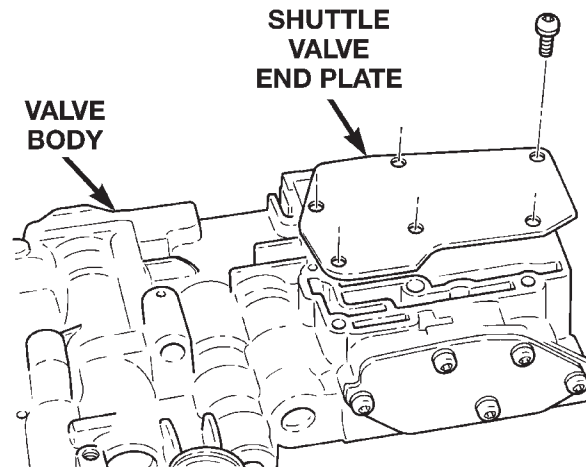

Fig. 51 Shuttle Valve End Plate
(21) Remove shuttle valve end plate (Fig. 51).